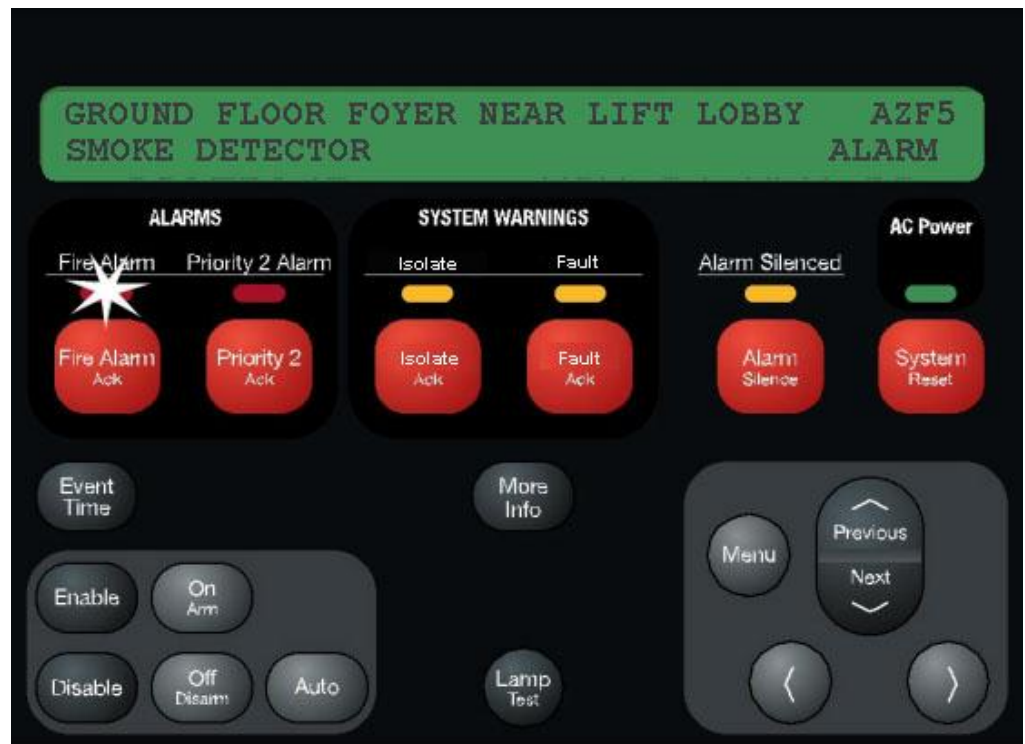

Figure 2-1. Alphanumeric Display Showing Example Alarm
- Alphanumeric display on the operator interface shows the location and type (smoke, call point, etc.) of the point in the alarm condition. An example is shown in Figure 2-1.
1. Unlock and open the enclosure door. **Read** the alphanumeric display. It alternates between the display shown in Figure 2-1 & the summary shown below: